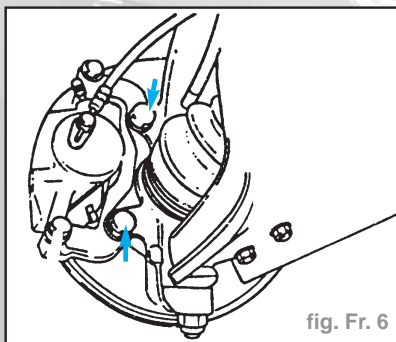

fig. Fr. 6
- Le support d'étrier, deux vis (flèches) (fig. Fr. 6)